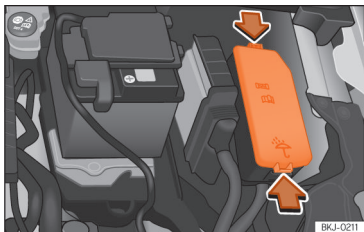

Fig. 64 In the engine compartment: lid of the fuse box.
- Press the locking tabs to release the fuse box cover »» **Fig. 64**